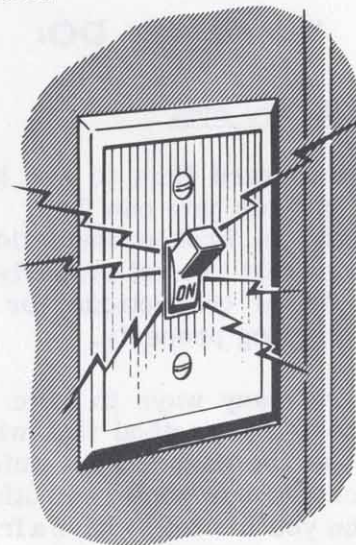

Figure 3
9. Switches not working properly (sparks fly as switch is flipped) (Figure 3) _____